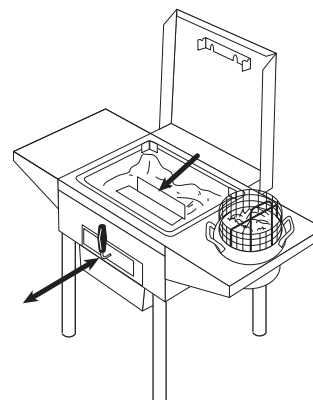

Figure 1
3. Use handlebar on sifter screen to slide screen vigorously back and forth while sifting breadings from top to bottom lug (Figure 1).